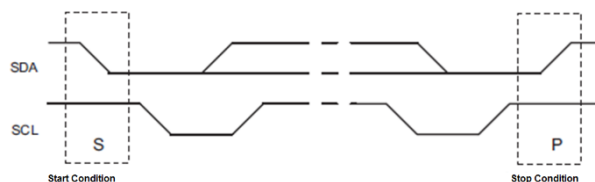

Figure 7: Start and Stop Conditions
Start (S) and stop (P) conditions are signaled by the master device to indicate the beginning and the end of the I²C transfer. A start condition is defined as the SDA signal transitioning from high to low while the SCL is high. A stop condition is defined as the SDA signal transitioning from low to high while the SCL is high (see Figure 7).